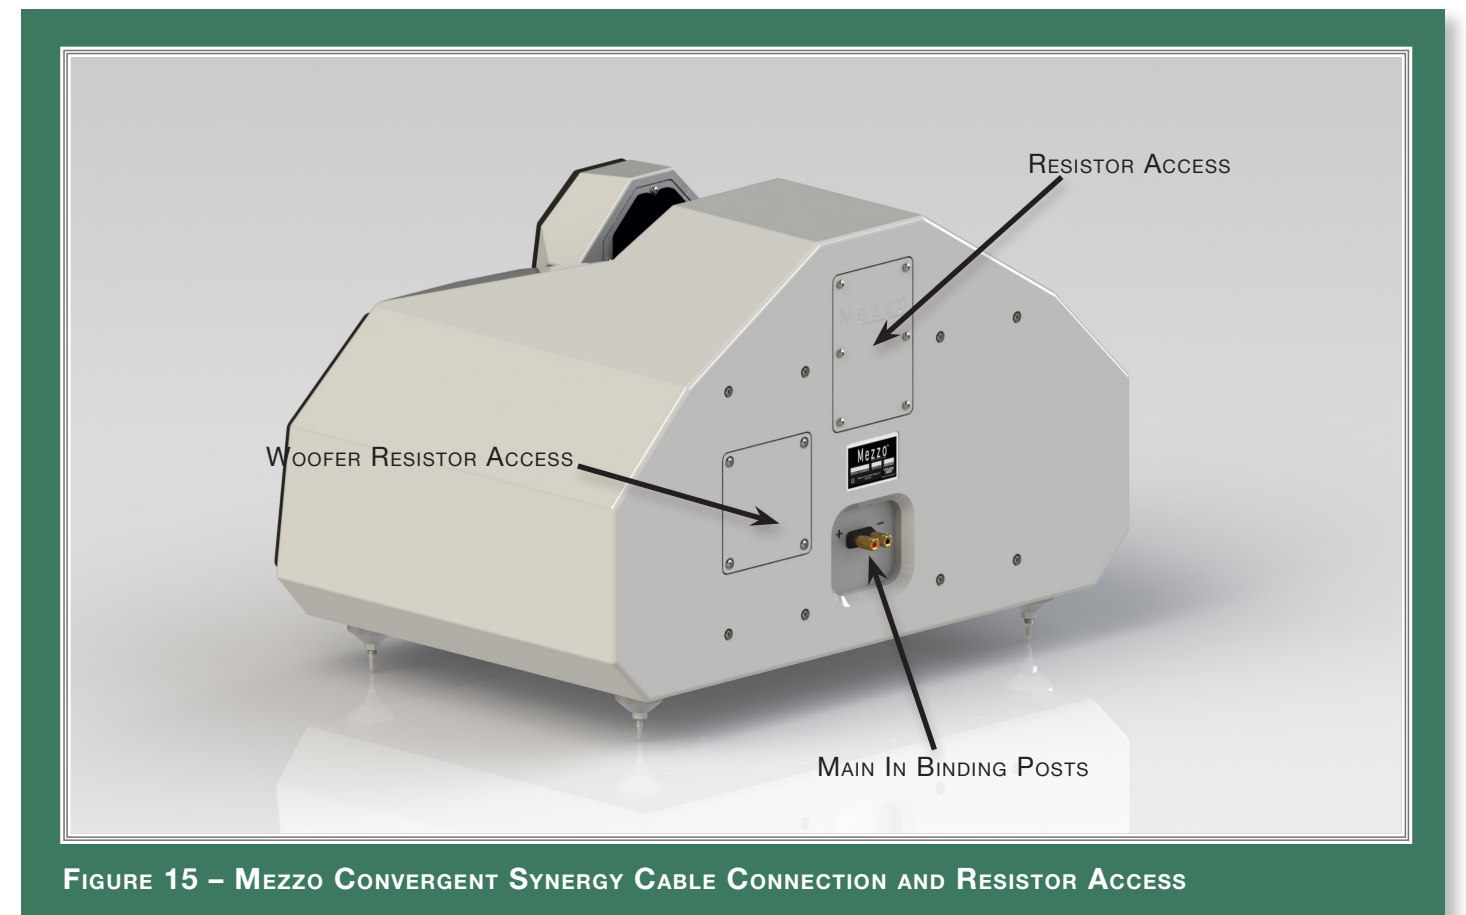

FIGURE 15 – MEZZO CONVERGENT SYNERGY CABLE CONNECTION AND RESISTOR ACCESS
2. Remove the appropriate resistor access cover from the enclosure by removing each of the 10-32 button head machine screws (see Figure 15 for resistor cover location).